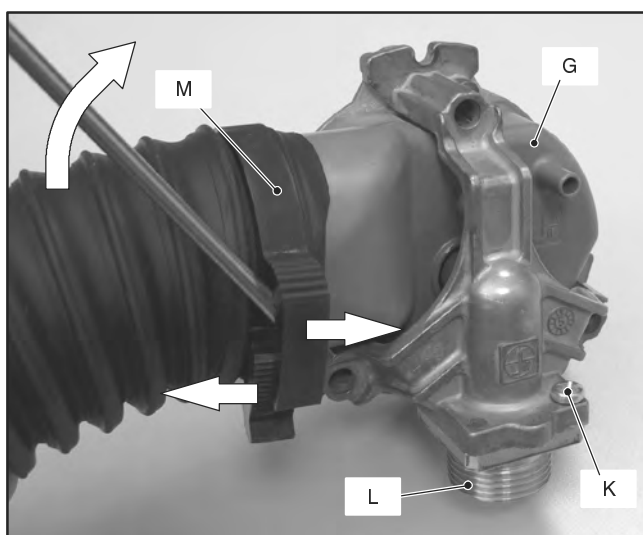

Fig. 17.5
- 2 Unscrew the screws *K* and remove the gas connection *L* (Fig. 17.5).